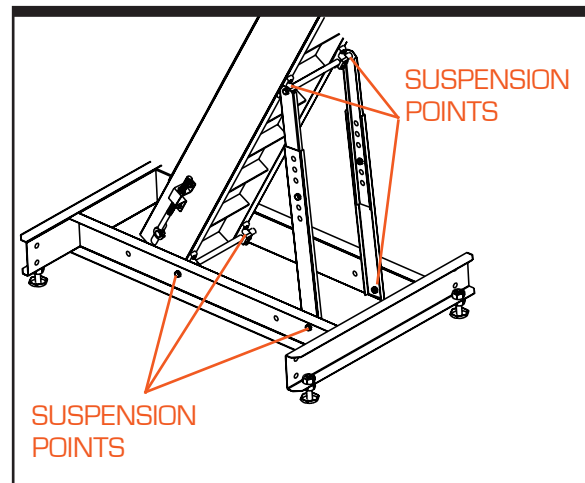

Figure 3-12. Adjusting the Dump Height Suspension Points
Step 13—Adjust Dump Heights. Once the extension is installed, you may need to adjust the dump height by more than the leveling feet will allow. To adjust the dump height of the prefeeder, loosen the six suspension points which connect the elevator and front legs to the frame of the prefeeder on both sides (see Figure 3-12). This allows the unit to pivot when adjusting the dump height once the two bolts in the telescoping portion